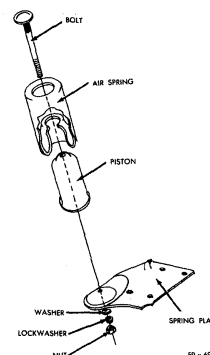

Fig. 7 — Air Spring and Piston Assembly
**Removal and Disassembly (Fig. 7)**